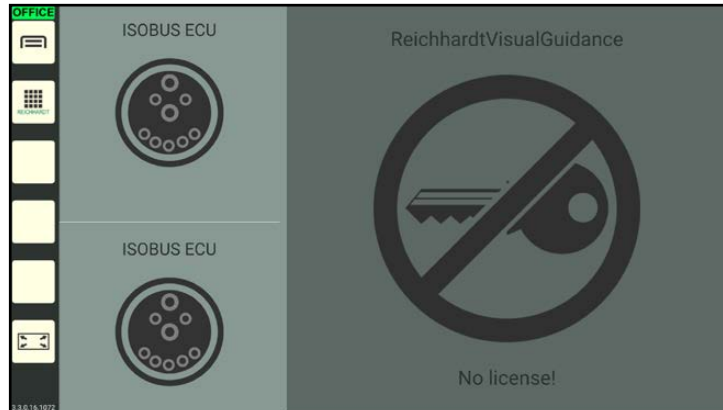

Fig. 92: ISOBUS applications in Office mode
- the SMART GUIDE application is not available because the license and/or the position data are not available (see Fig. 92).